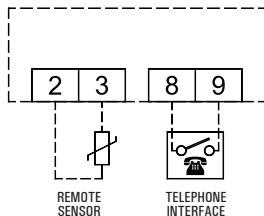

Fig. 4
3. Make the electrical connections following the connection diagram in Fig. 4.